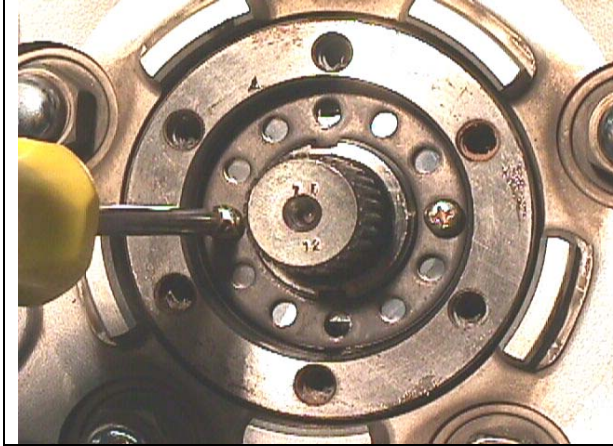

Figure 9
8. Install the set plate screws as shown in Figure 9.